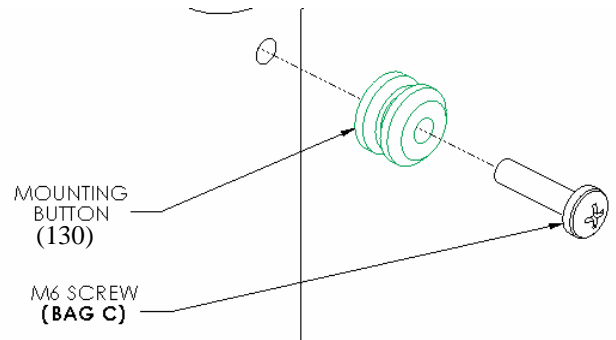
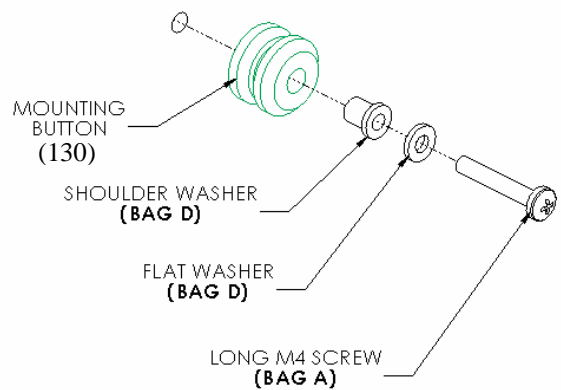
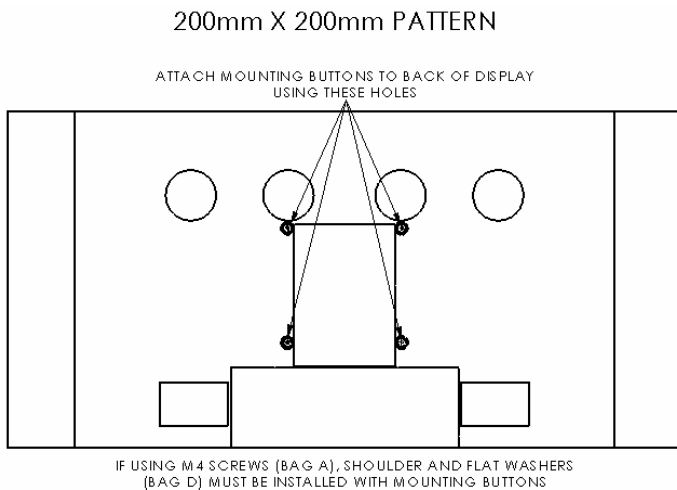

Figure 11. Attach Mounting Buttons to Display Using M6 Screws
Figure 12. Attach Mounting Buttons to Display Using Shoulder Washers, Flat Washers, and M4 Screws
Figure 10. Display with 200mm x 200mm Hole Pattern
1. Select the appropriate method, listed below, to attach the four mounting buttons (see Figure 10) to the back of your display:
- As shown in Figure 10 and Figure 11, use four M6 screws (Bag C) to attach the four mounting buttons (130) to your display.
- As shown in Figure 10 and Figure 12, use four shoulder washers (Bag D), four flat washers (Bag D), and four M4 screws (Bag A) to attach the four mounting buttons (130) to your display.